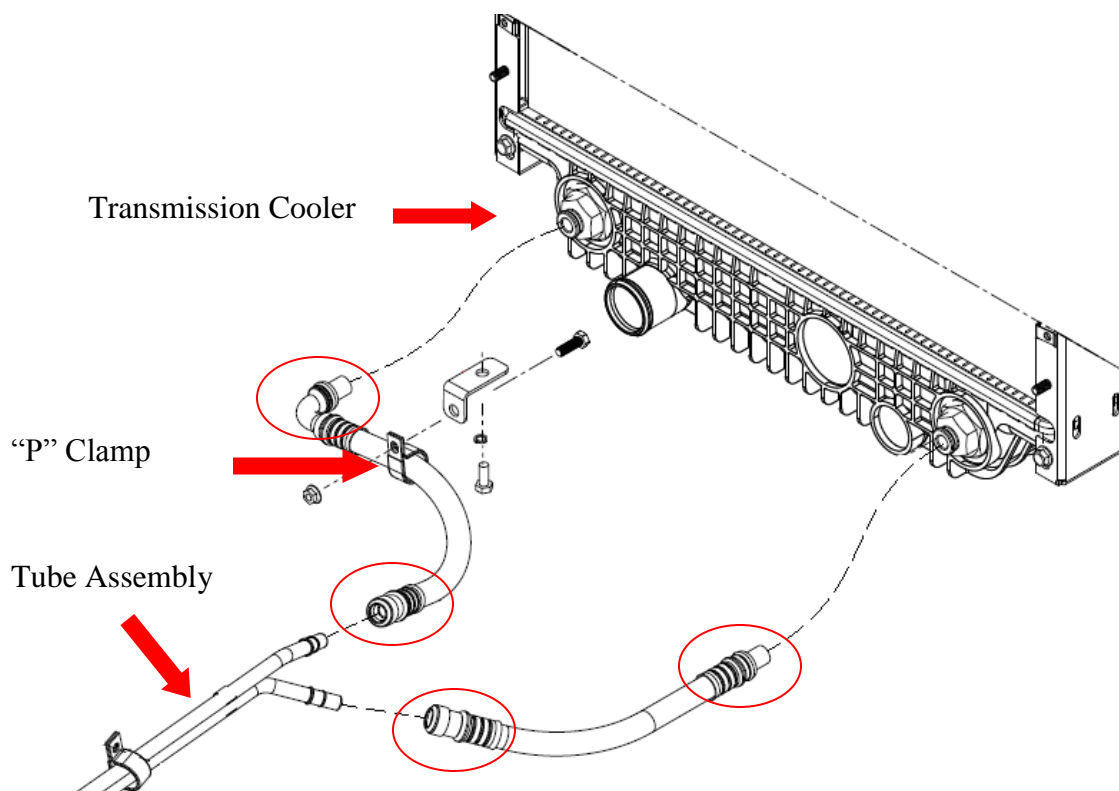

Figure 1
1. Check for proper connection of each transmission hose where they connect to the transmission cooler and tube assembly (see circled connections in figure 1). Refer to page 5 for verification procedure on “push to connect” hoses.
2. Check for proper orientation of “P” clamp securing the transmission hose to the bottom of the radiator shroud. If clamp is not oriented per figure 1, remove clamp and re-install as shown in figure 1 below.